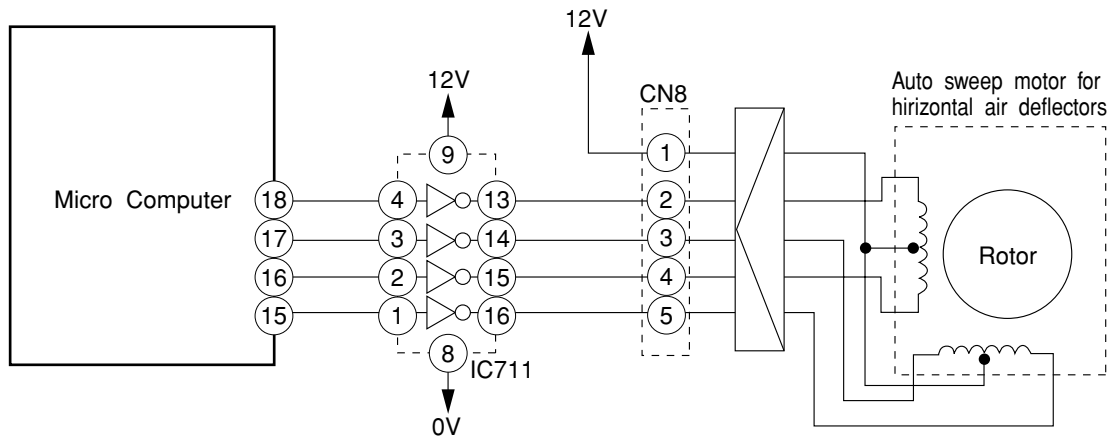
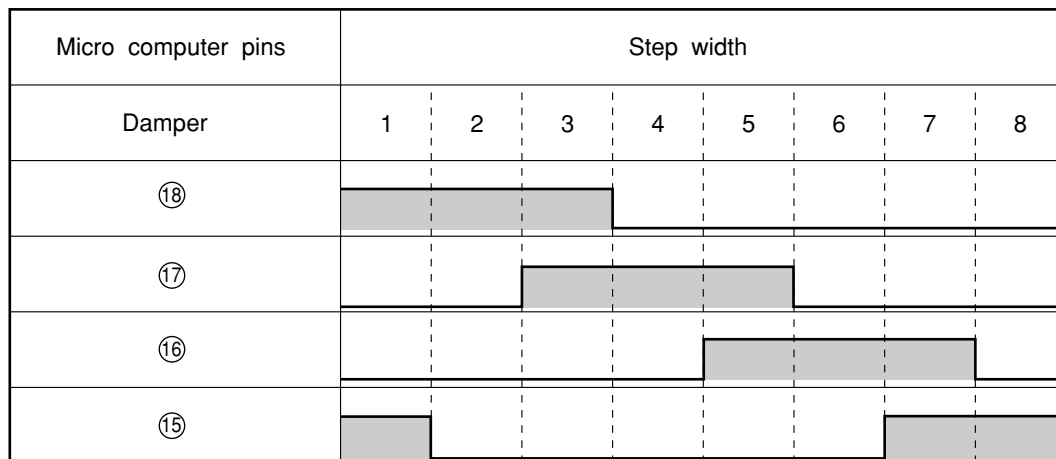

Fig.4-1 Auto Sweep Motor Circuit (Horizontal air deflectors)
Fig.4-2 Micro computer Output Signals
- Fig.4-1 shows the Auto sweep Motor drive circuit; the signals shown in Fig.4-2 are output from pins ⑮-⑰ of the micro computer.
- As the micro computer's outputs change as shown in Fig.4-2, the core of the stepping motor is excited to turn the rotor. Table 4-1 shows the rotation angle of horizontal air deflectors.